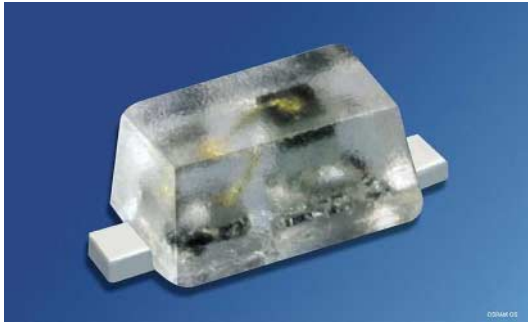

Figure 1 - SmartLED™
- better heat dissipation given by the leadframe based package (SCD 80, see figure 1) which improves the lifetime